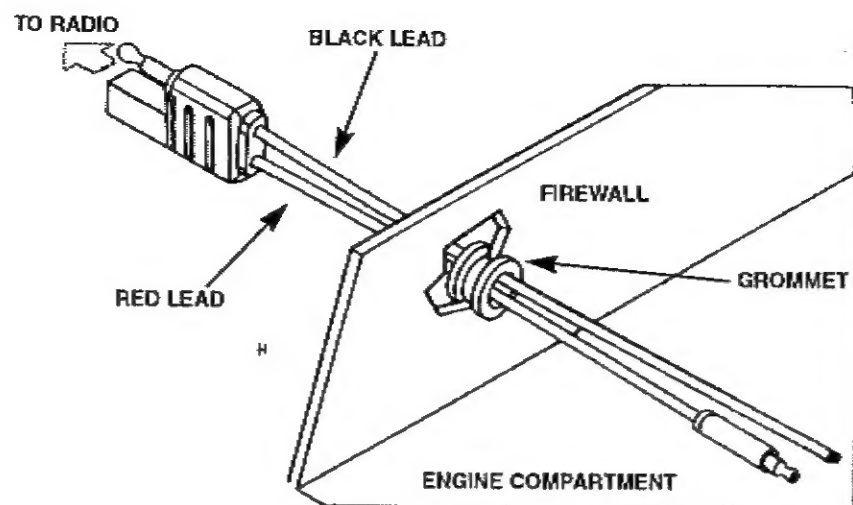

Figure 1. Power Cable Routing Into Engine Compartment
3. From inside the vehicle, feed the red and black leads (without lugs attached) through the access hole and into the engine compartment. See Figure 1.